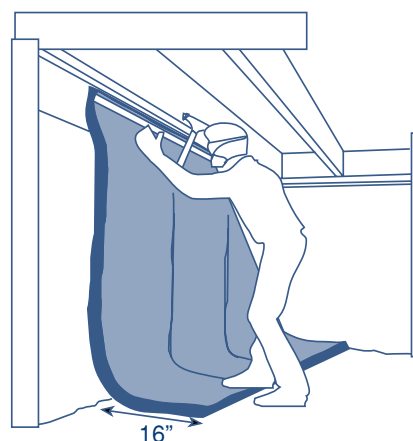

Figure 15: Nail long pieces of insulation to the band joist.
Step 2: Using nailing strips (½-inch by 1½-inch lumber), nail 24- or 36-inch widths of blanket insulation to the sill or band joist (Figure 15).